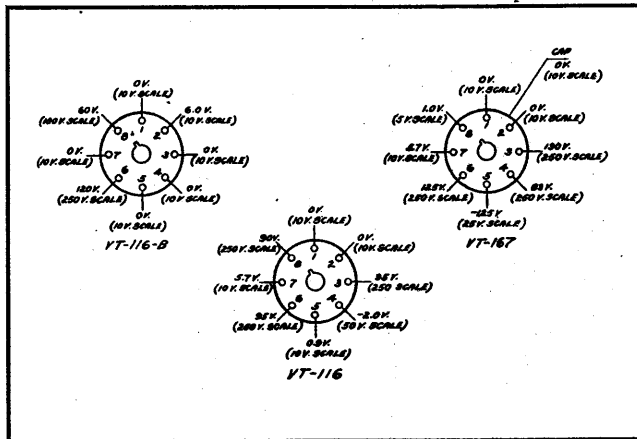

Figure 5-1. Frequency BC-221-M—Socket Pin Voltages
f. FREQUENCY METER BC-221-M.—The following diagram (fig. 5-1), which shows vacuum-tube terminal voltages with respect to ground (chassis), is typical with 6-volt filament and 135-volt plate supply with "GAIN" control set at maximum: